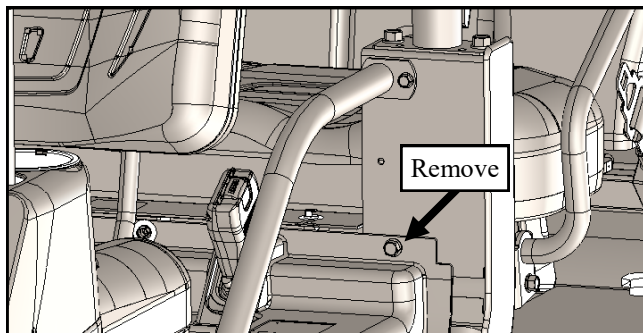

Fig. 3.7 (Left Side OE Bolt)
- 3.7 Remove and save the M8 bolt and washer as shown in **Fig 3.7**.